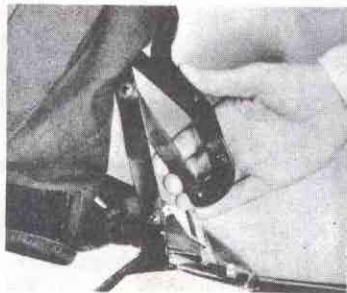

Fig. 43—Starting Link Cluster
7. Pull the header forward. It may be necessary to start the link cluster by pulling each side forward slightly (fig. 43) or the header can be pushed rearward after the side irons are locked. This will open the link clusters after which the header can be moved forward and rested on the windshield.